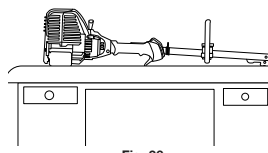

Fig. 36
- Place the engine on a flat, level surface with the cutting head shield hanging off a work bench or table to get a proper oil level reading (Fig. 36).